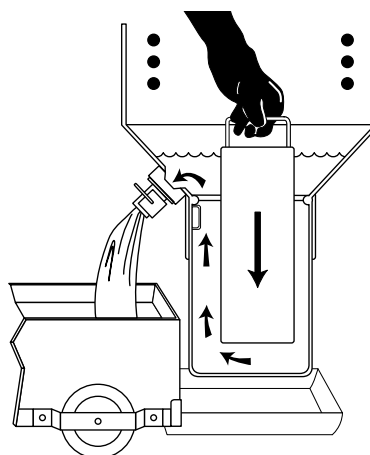

FIGURE 23
5. **CAUTION:** Wearing safety gloves, with drain valve still open, use displacement tool to force enough cooking oil up and out of drain valve to allow safe removal of collector (Figure 23).